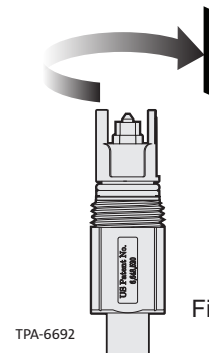

Figure 15
Step 2: Place the converter housing over the Pushlok connector. Screw the converter onto the connector clockwise, until it hits a hard stop and will not screw on any further. (Figure 15)